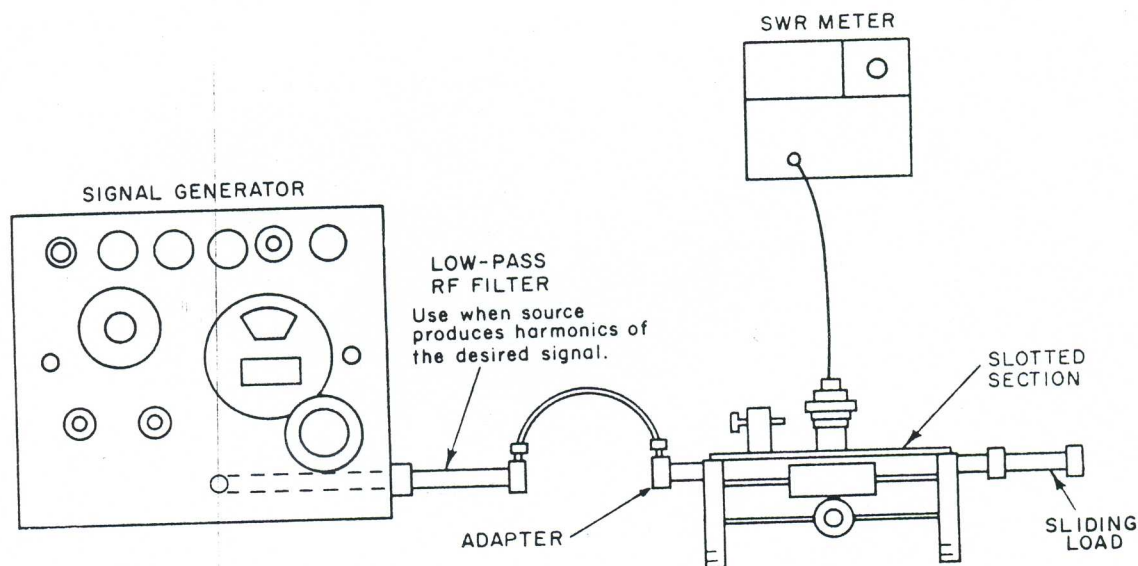

Figure 3. Setup for Measuring SWR
14. Connect the equipment as shown in Figure 3.